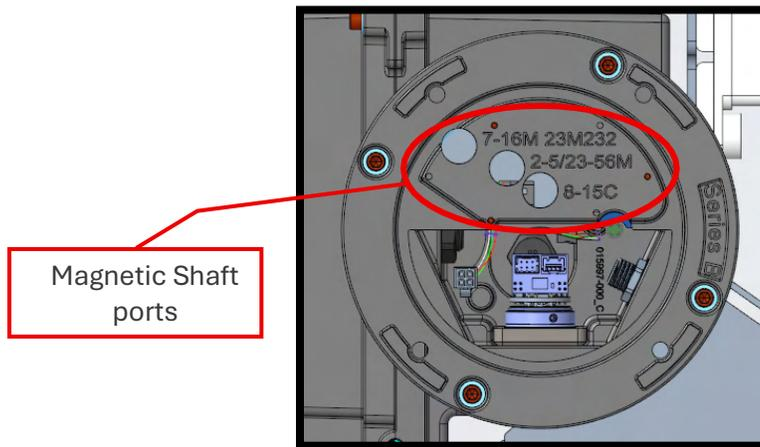

Figure 1: Meter adapter plate and magnetic shaft positions
- Figure 1 shows the magnetic shaft port locations for Dresser 8C through 56M meters. Insert the magnetic shaft into the correct port for the corresponding meter, as indicated by the labels on the meter adapter plate on the neck of the corrector.